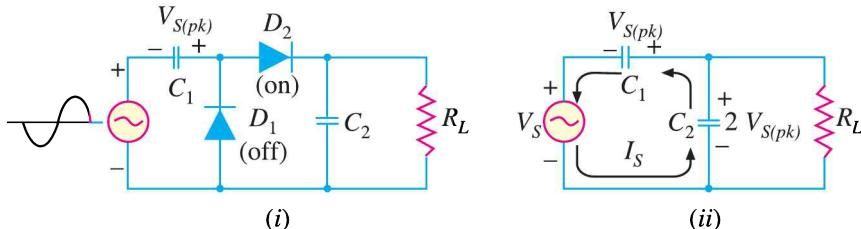

Fig. 6.50
- (ii) When the polarity of the input a.c. voltage reverses (*i.e.* during positive half-cycle), the circuit conditions become as shown in Fig. 6.50 (i). Now D_1 is reverse biased and D_2 is forward biased and the equivalent circuit becomes as shown in Fig. 6.50 (ii).
Referring to Fig. 6.50 (ii), it is easy to see that C_1 (charged to $V_{S(pk)}$) and the source voltage (V_S) now act as *series-aiding* voltage sources. Thus C_2 will be charged to the sum of the series peak voltages i.e. $2 V_{S(pk)}$.